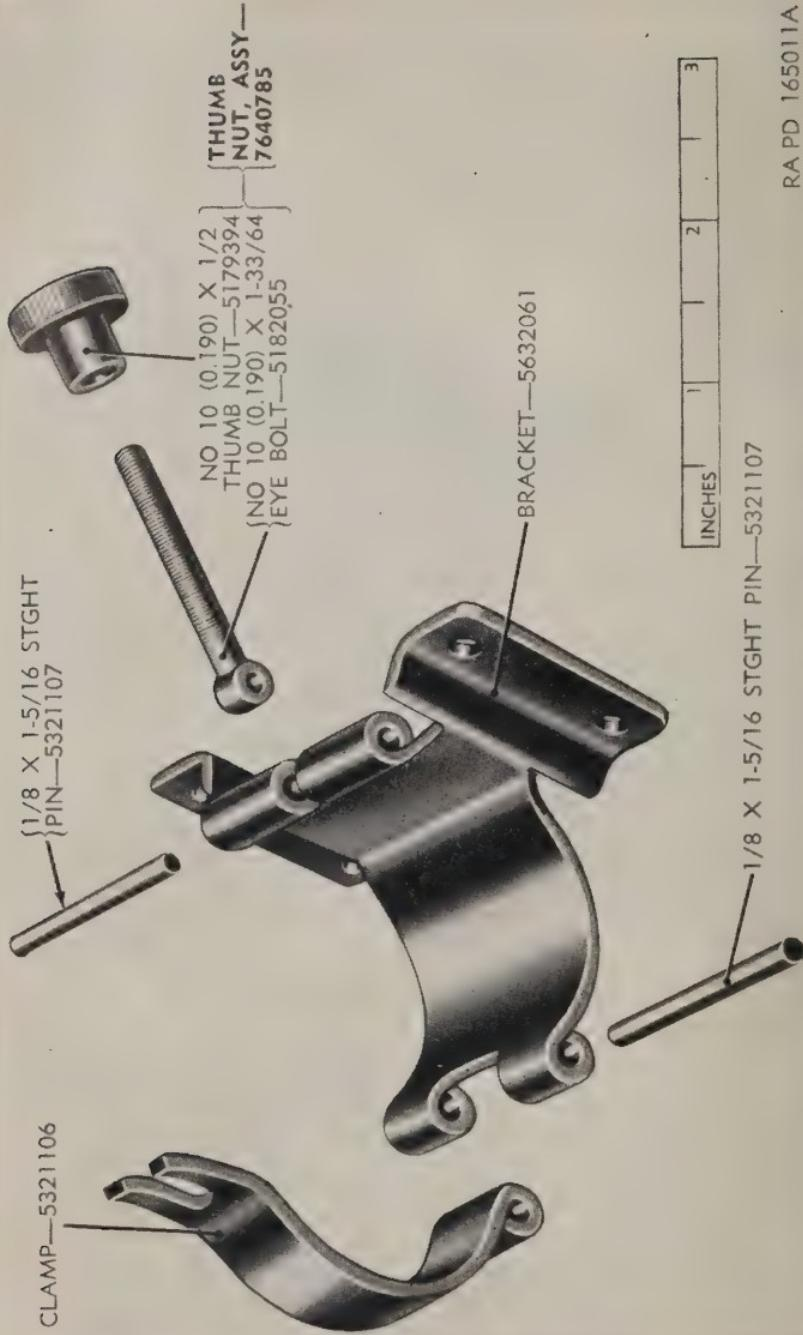

Figure 37. Telescope mount M28—instrument light clamp assembly—exploded view.
74. Disassembly of the Instrument Light Clamp Assembly (fig. 37)
For disassembly of the thumb nut assembly (fig. 37), which is identical to the thumb nut assembly on the telescope mount M23 (fig. 28), see paragraph 53.
For assembly of the thumb nut assembly (fig. 37), which is identical to the thumb nut assembly on the telescope mount M23 (fig. 28), see paragraph 60.
(fig. 37)